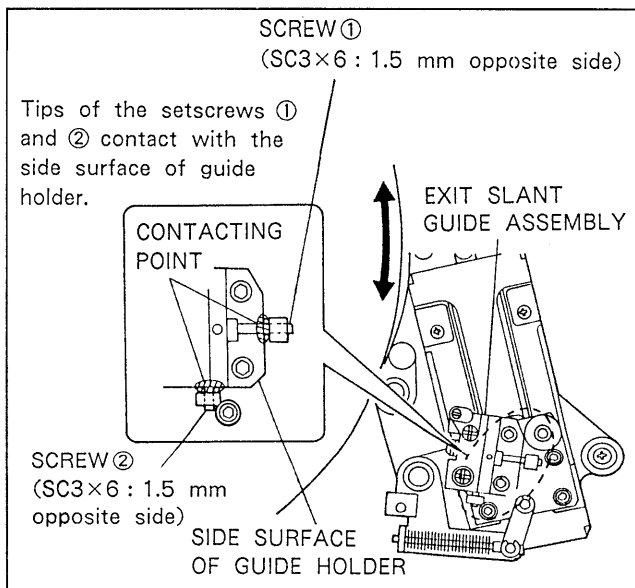

Fig. 6-5-9. Screw Position of Exit Slant Guide Assembly
2. Check that the tips of the setscrews ① and ② in Fig. 6-5-9, are coming in contact with the guide holder's side surface of exit slant guide assembly.